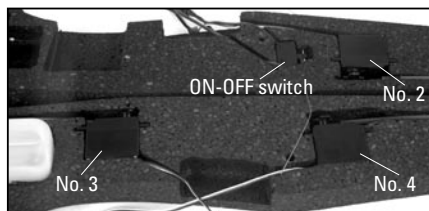

fig. 2
- ▼ 4. Fit servos to your Prangster as shown in fig. 2. The rudder servo fits into servo well number 4, the throttle servo fits into well number 3 and the elevator servo fits into well number 2 in the fuselage. The two aileron servos fit into the wells in the left (1L) and right (1R) wing panels.